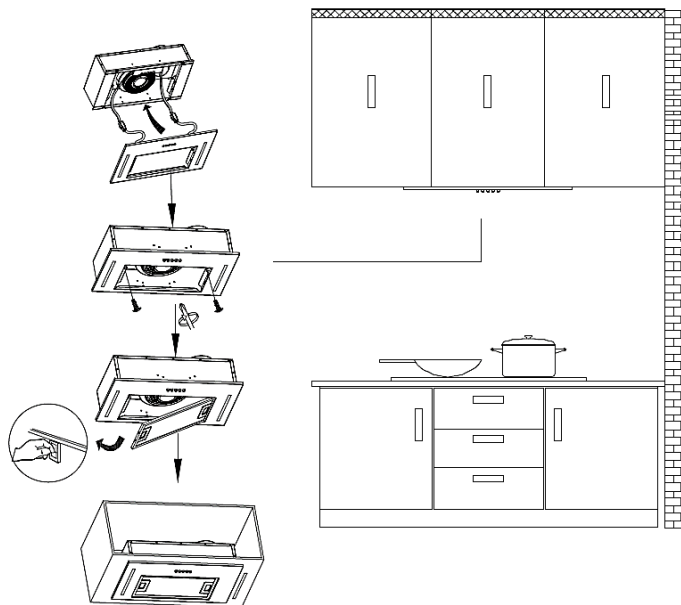

Fig. 9
7. Insert the plug of LED light into the power protection box and close the cover. Then install the front panel and drill 2 pieces of setscrews. Then install the aluminum grease filter back. (see Fig. 9)